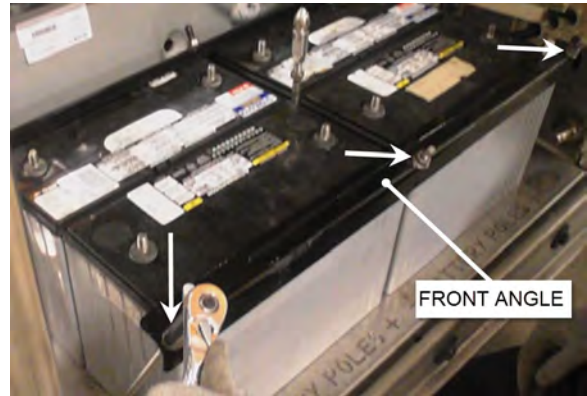

FIGURE 35: REMOVE THE FRONT ANGLE
5. Unscrew three nuts (indicated with arrows) and then remove the front angle (**Figure 35**).